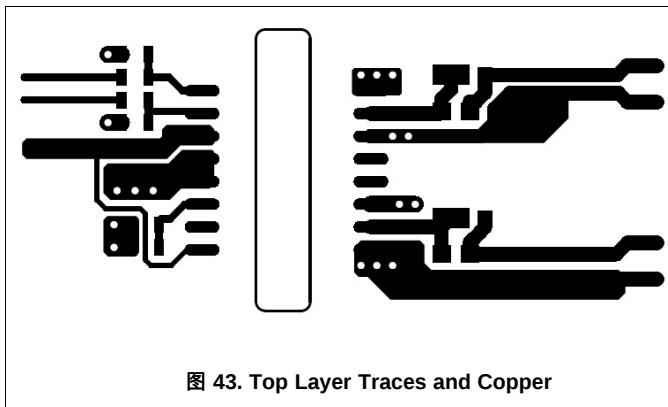

图 43. Top Layer Traces and Copper
- Increasing the PCB copper connecting to VDDA, VDDB, VSSA and VSSB pins is recommended, with priority on maximizing the connection to VSSA and VSSB (see 图 43 and 图 44). However, high voltage PCB considerations mentioned above must be maintained.
图 43 and 图 44 shows top and bottom layer traces and copper.